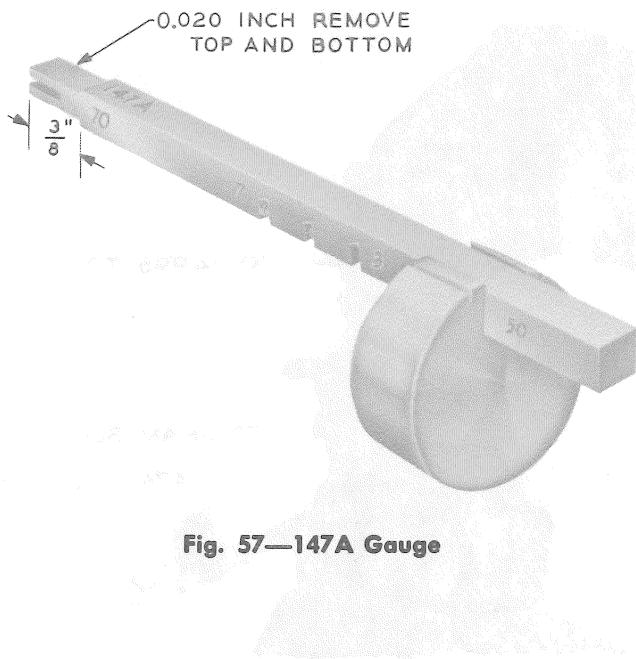
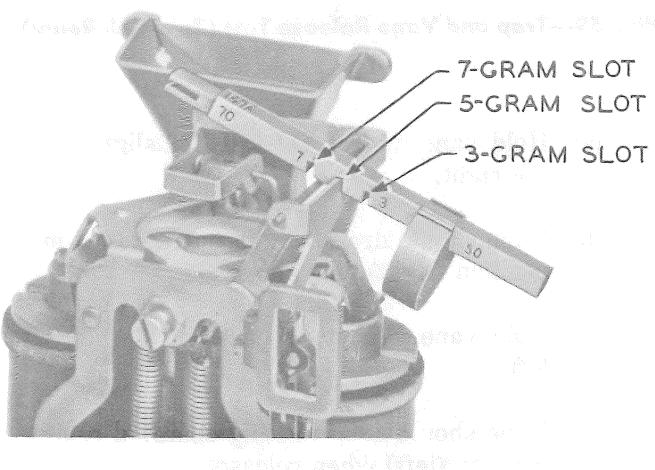

Fig. 57—147A Gauge
Fig. 58—Gauge for Ground Contact Spring Force
- (1) With ground lead connected to coin collector, place required gram slot of 147A gauge (Fig. 57) on horizontal portion of switch lever (Fig. 58).
- (2) Connect hand test set across line terminals of coin collector, and trip coin trigger. Dial
- (3) Ground contact-spring force for P-145749 (2-spring) relays should be a minimum of 5 grams measured with the 147A gauge as shown in Fig. 58.
- (4) Ground contact-spring force for D-96590 (3-spring) relays should be a minimum of 3 grams measured with 147A gauge 3-gram slot. Contact requirements are as follows: